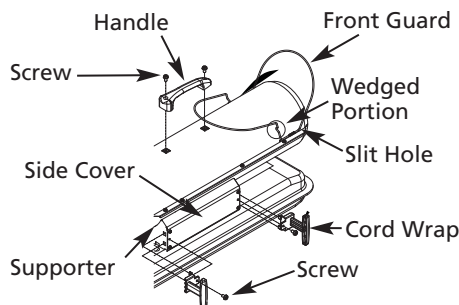

Figure 7 – Handle and Cord Wrap Installation 3VE48D and 3VE49D only
2. Align the holes in upper housing with two mounting holes on the handle as shown in Figure 7.
4. Insert cord wrap into the rectangle holes on the supporter and align the hole on the cord wrap with the mounting hole on the side cover as shown in Figure 7.